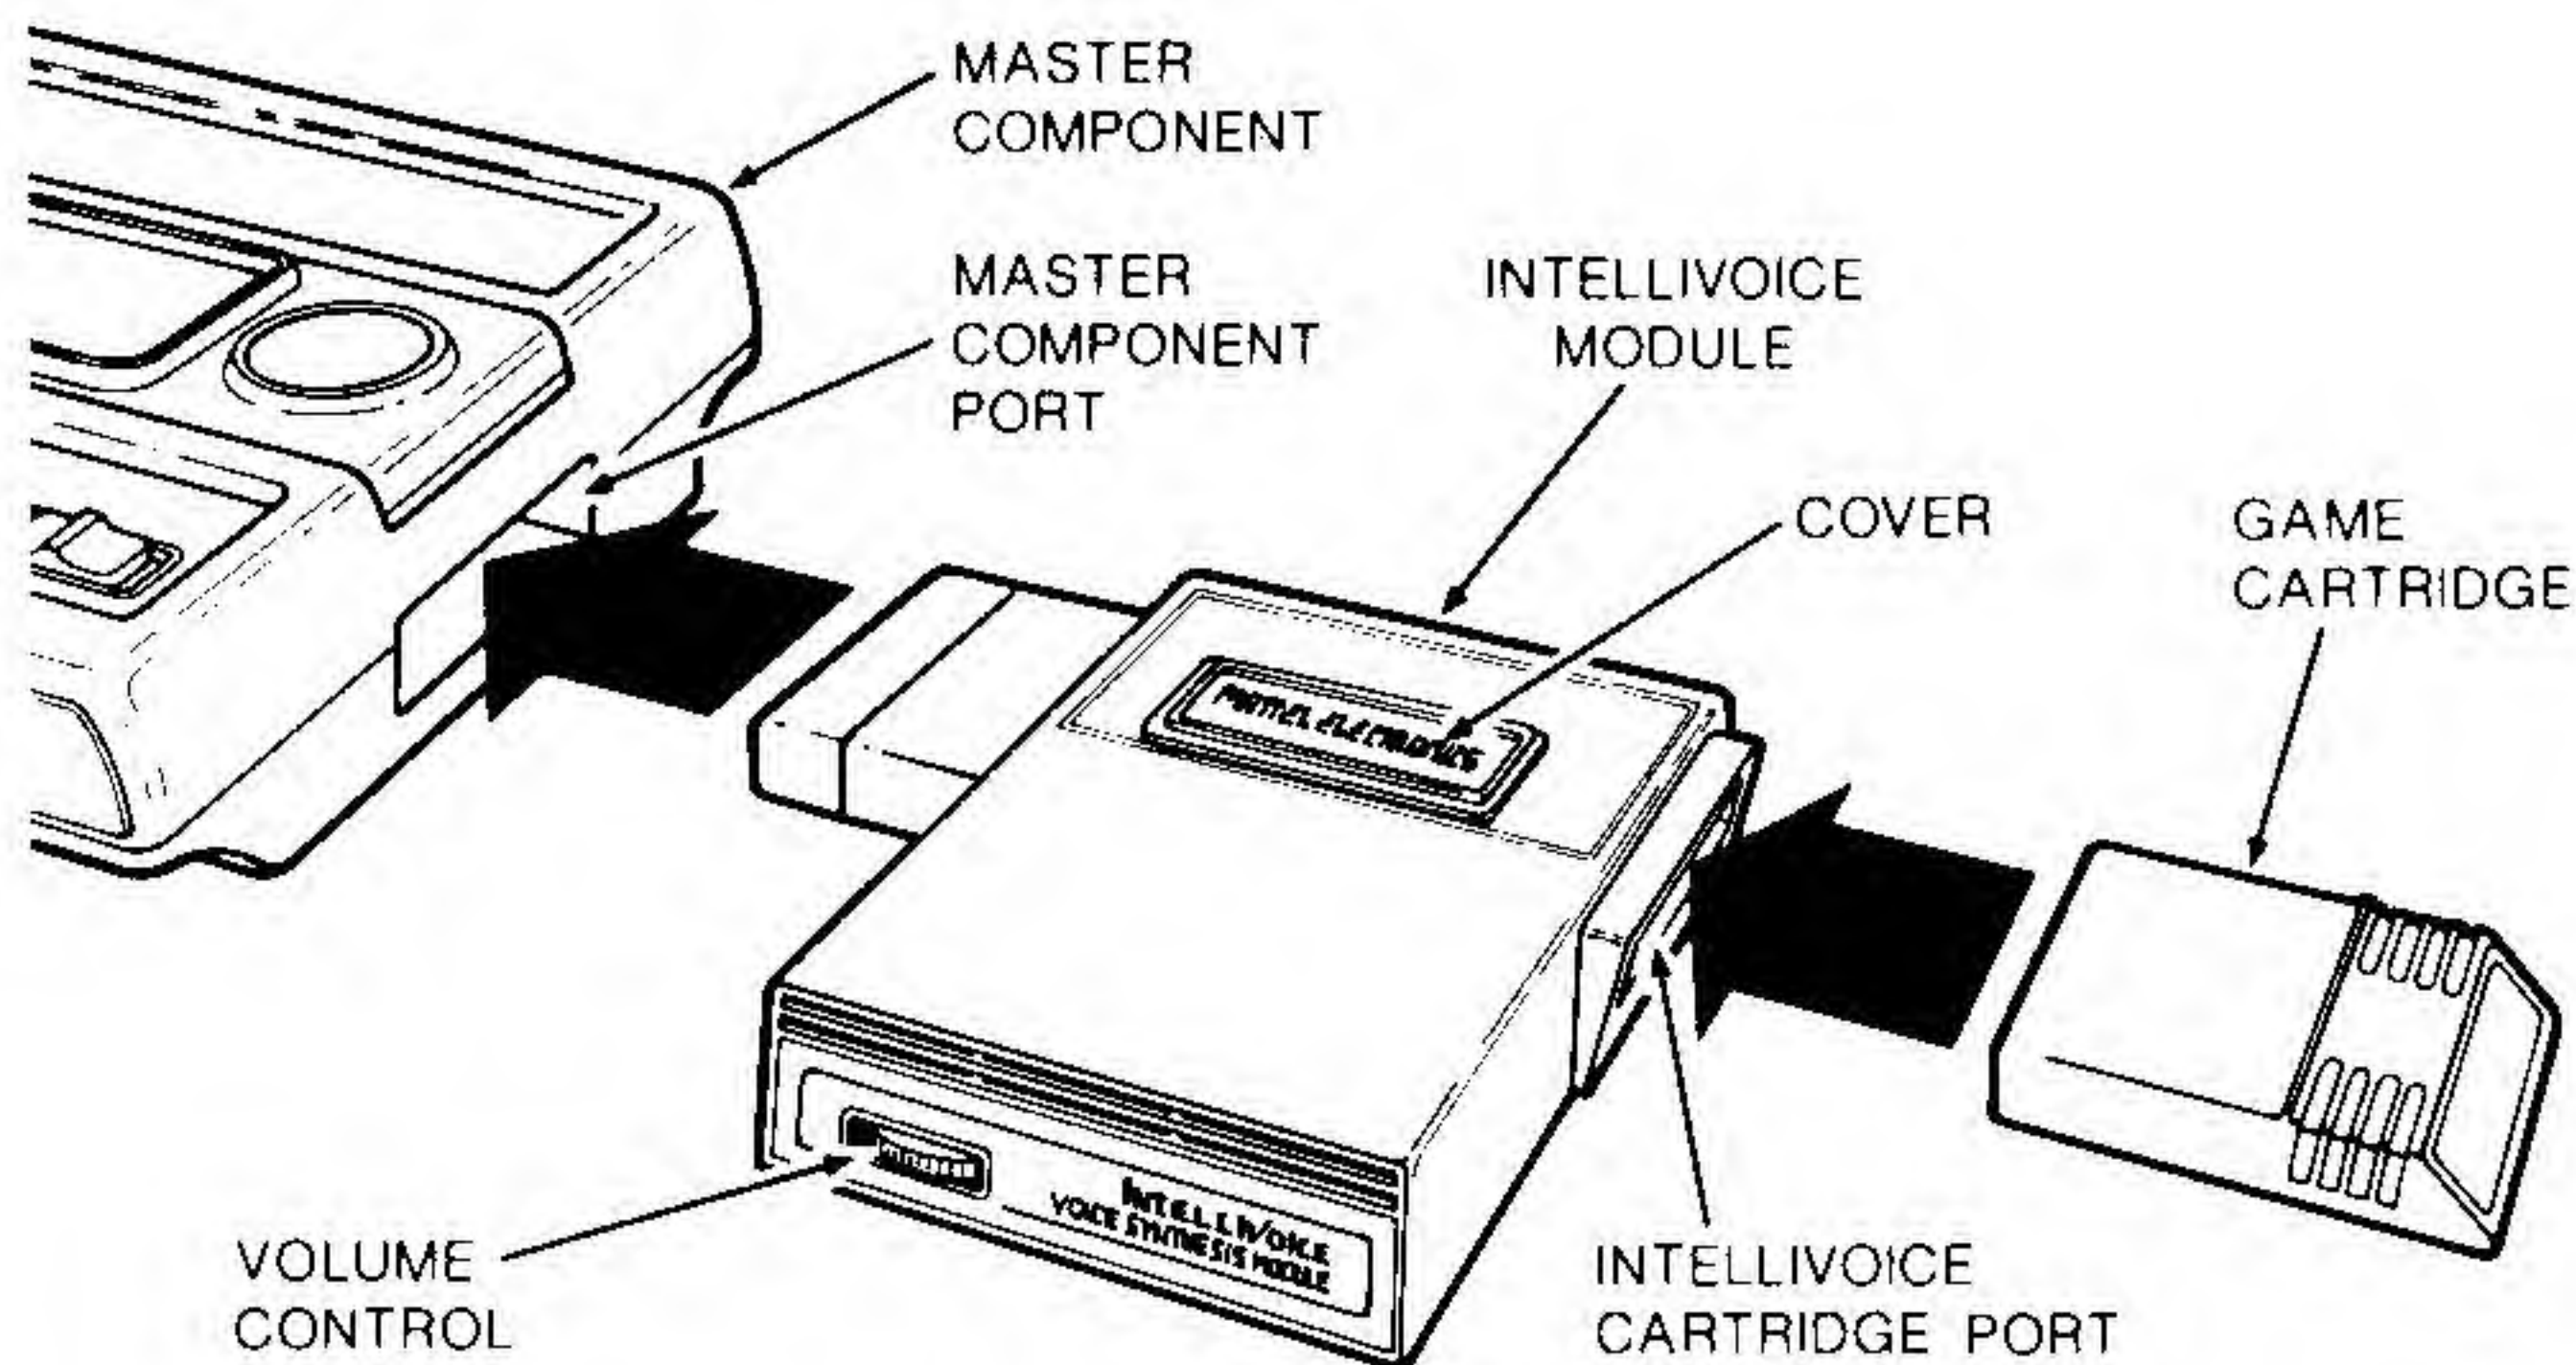

Figure 1 — Intellivoice Module
1. Insert Intellivoice module into the Master Component Port (as if it were a game cartridge) as shown in Figure 1. Be sure it is plugged in all the way.